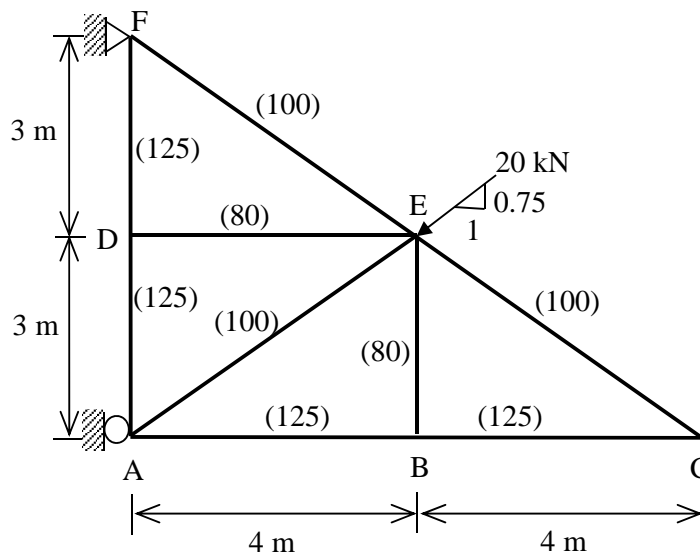

Figure 1 / Rajah 1
1. [a] Determine the vertical and horizontal displacements at point C for the truss shown in **Figure 1**. The cross-sectional area of each member is given in parentheses (mm^2) and the modulus of elasticity is 200 GPa. Use virtual work method.